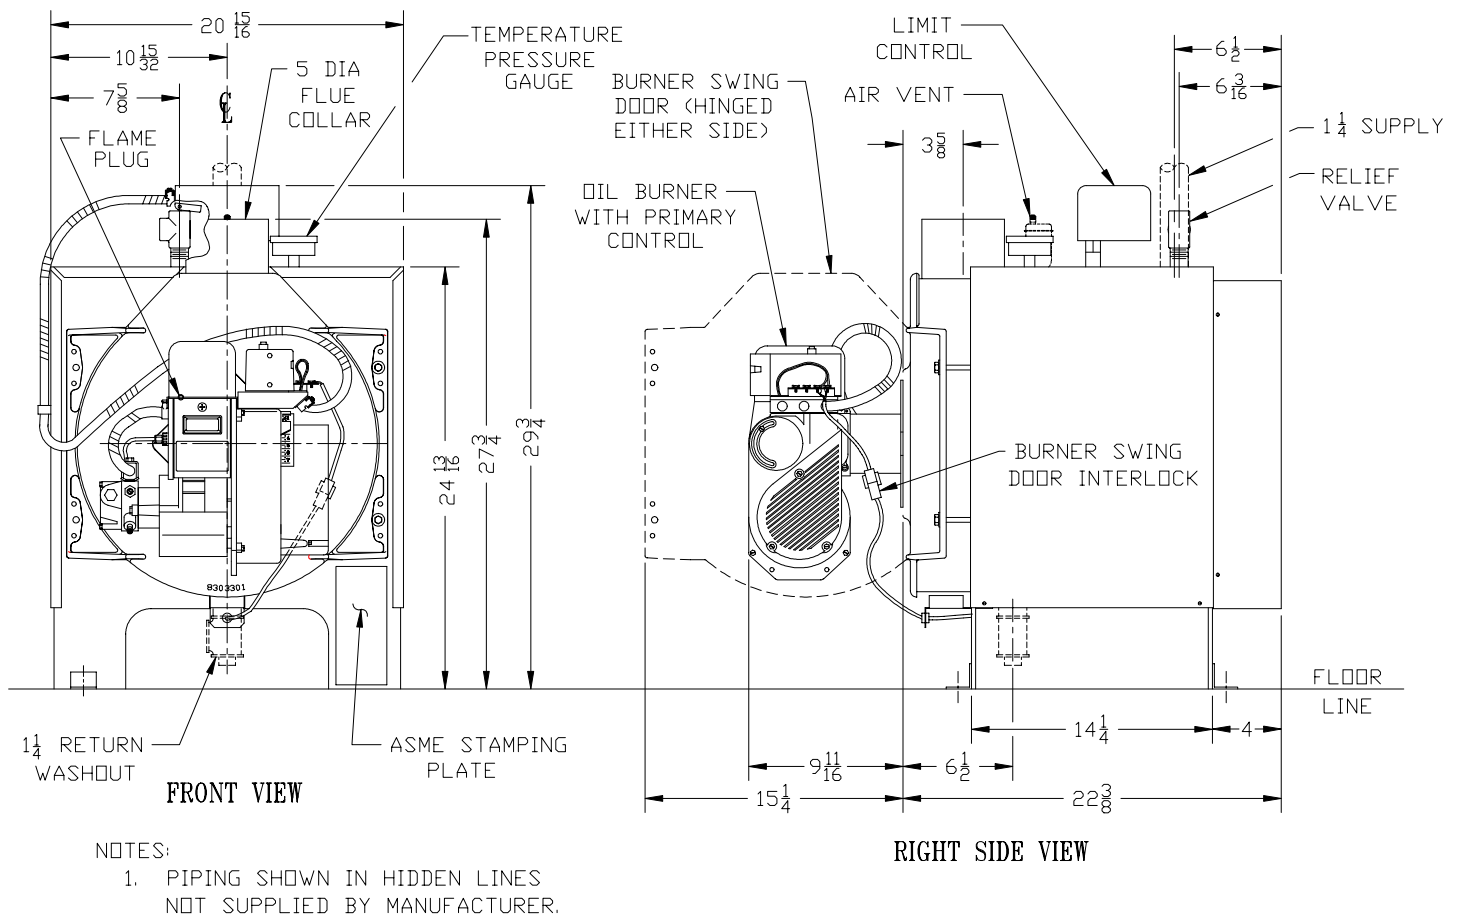

Figure 1: LEDV Packaged Boiler
2. ANY CLAIMS for damage or shortage in shipment must be filed immediately against the carrier by the consignee. No claims for variances from, or shortage in orders, will be allowed by the manufacturer unless presented within sixty (60) days after receipt of goods.
B. LOCATE BOILER in front of final position before removing crate. See Figure 1. Boiler's approximate shipping weight is 325 pounds.